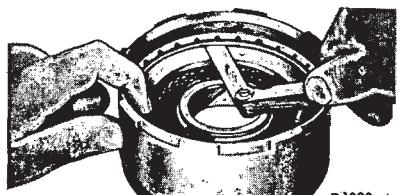

FIG. 80—Checking Reverse—High Clutch Snap Ring Clearance
6. With a feeler gauge, check the clearance between the snap ring and the pressure plate (Fig. 80).